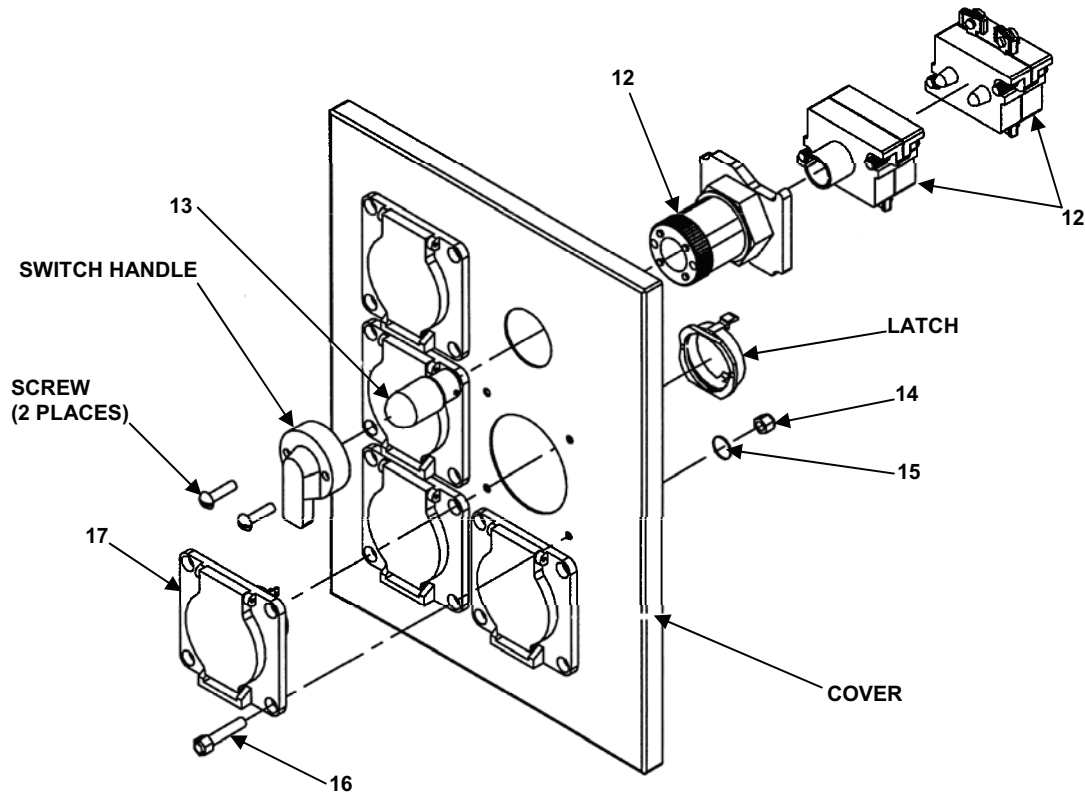

Figure 2. External Components.
1. Remove two (2) screws from switch handle. See Figure 2.
2. Install new incandescent lamp (Figure 2, item 13) if required, using the 6" long section of 3/8" rubber hose found in the tool kit.
1. Remove four (4) screws (Figure 2, item 16), flat washers (Figure 2, item 15), and nuts (Figure 2, item 14) from panel receptacle (Figure 2, item 17).
4. Install four (4) screws (Figure 2, item 16), flat washers (Figure 2, item 15), and nuts (Figure 2, item 14) into panel receptacle (Figure 2, item 17).